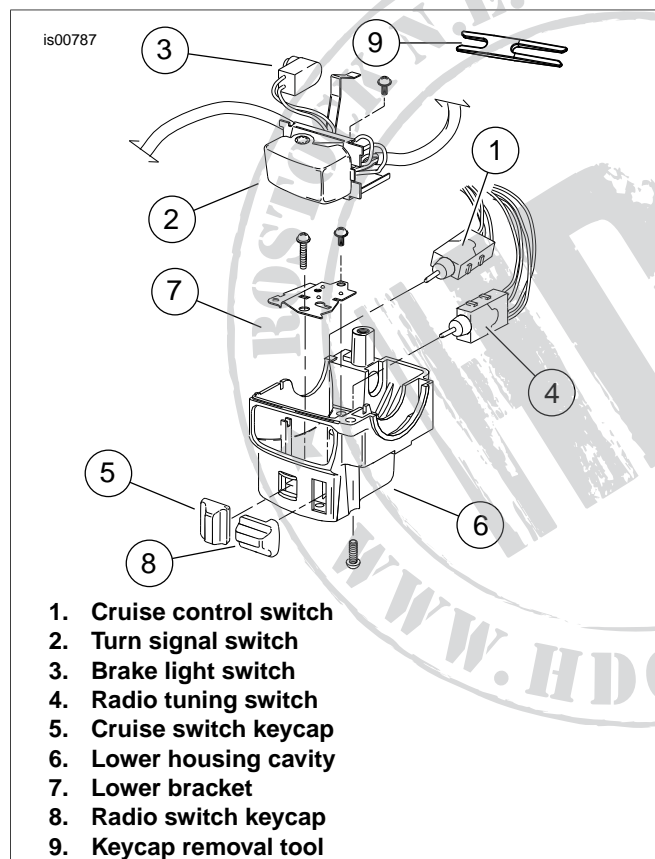

Figure 9. Right Handlebar Lower Switch Housing
1. See Figure 9. Place cruise control (1) and/or radio (4) switches into chrome lower housing cavity (6). Properly installed, the switches lay in blocks cast into the lower cavity. The cruise control switch lays on edge and operates in a horizontal position. Verify that the switch shaft is aligned for proper keycap operation.
2. Place the lower bracket (7) into the housing (weld nut side down). On Ultra models, lower step of bracket should be positioned over cruise control switch (1) (horizontally oriented). Slots in upper step engage two tabs on body of radio control switch (4).
3. Install longer screw into front of lower bracket (7) and into threaded boss in housing.